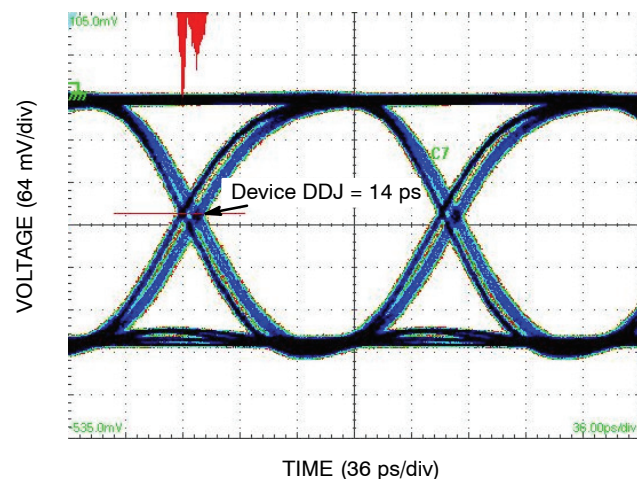

Figure 12. Typical Output Waveform at 6.125 Gb/s with PRBS $2^{23}-1$ ($V_{INPP} = 400$ mV; Input Signal DDJ = 15 ps)
8. Measured by forcing $V_{INPP(MIN)}$ from a 50% duty cycle clock source. All loading with an external $R_L = 50\ \Omega$ to V_{CC} . Input edge rates 40 ps (20% – 80%). See Figure 12 and 14.